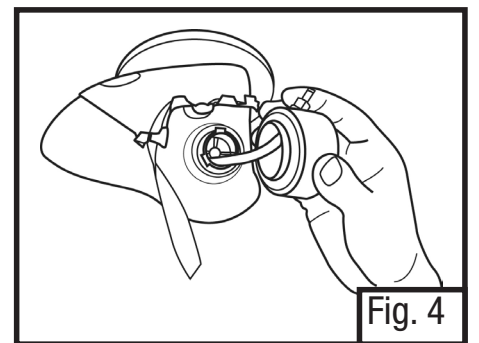

Fig. 4
5. Insert the other end of the sampling tube through the respirator filter holder and past the respirator's inhalation valve. Inserting the sample tube through the filter holder in the area shown minimizes the chance of kinking tubing during adapter installation. With the full facepiece respirator, feed this tubing end also past the nose cup (and in the case of an AV-series full facepiece) the AV-632 Bayonet Adapter inhalation valve (Fig. 4).